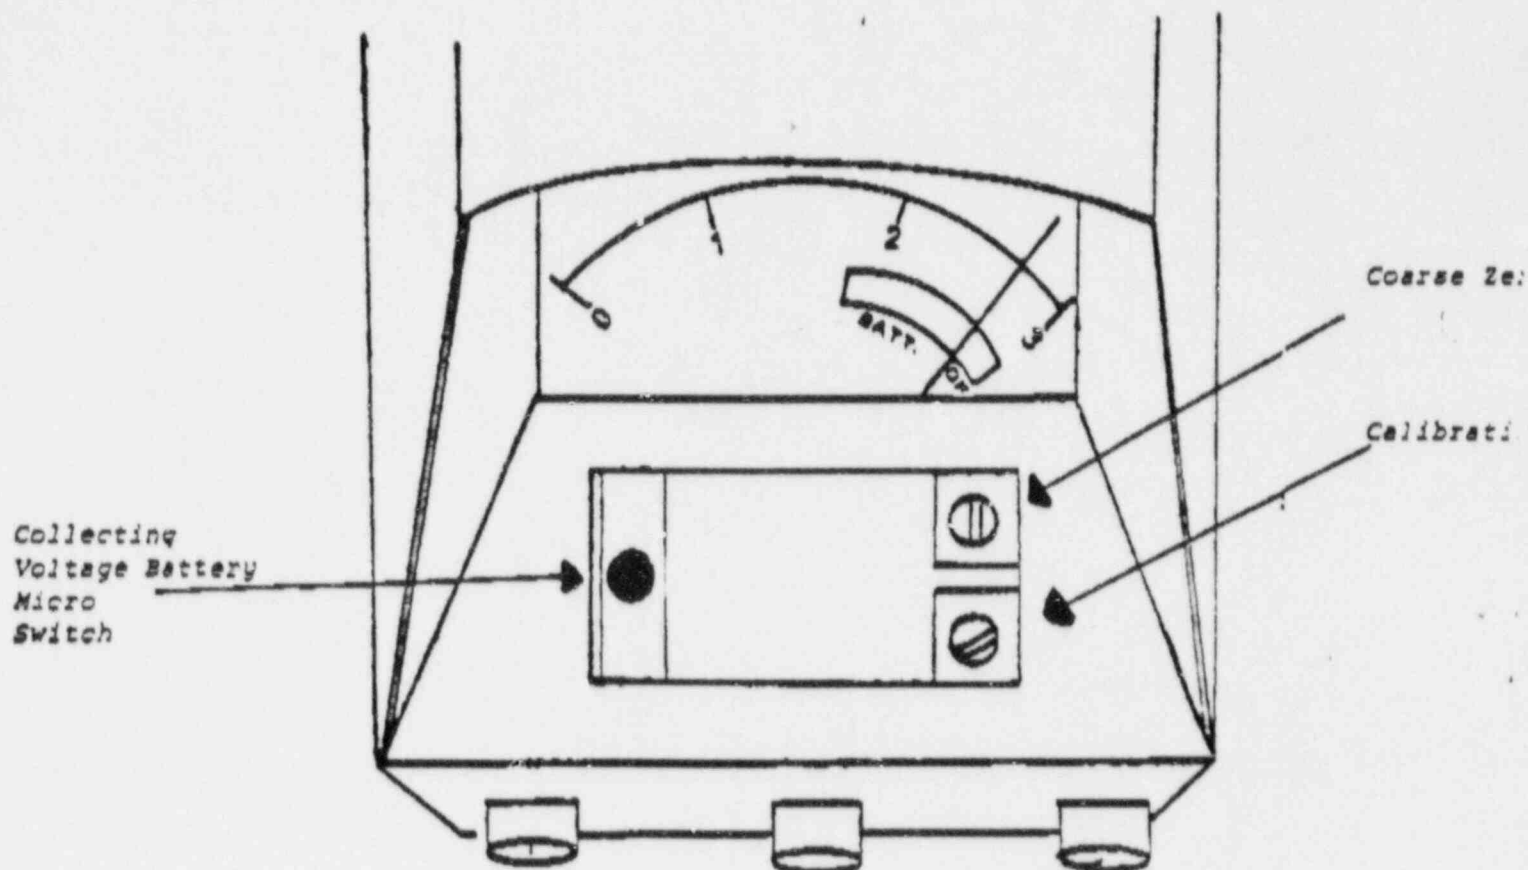

FIGURE 2. View of Instrument with VICTOREEN Logo Plate Removed Showing Battery Test Micro Switch, Calibration Control and Coarse Zero Potentiometer
The BATT position on the Range Switch will check the condition of the D cells only, which must read in the green area of the meter. Since the 22½ volt batteries will last for shelf life, they require only infrequent checking. Checking may be accomplished by snapping out the VICTOREEN logo located below the meter and actuating a micro-switch located on the left hand side of the opening. When the switch is actuated, the meter will read about 95% of full scale. Note the reading for future reference to establish battery condition. The batteries should be replaced when they have dropped about 5% below their initial reading. This check must be performed with the Range Switch in the OFF position. See Figure 2.
3.2.5 Calibration Potentiometer and 22½ V Battery Test Switch - A calibration adjusting potentiometer, a coarse zero potentiometer, and a collecting voltage battery test switch are located under the VICTOREEN logo plate directly under the meter. (See Figure 2). This logo may be snapped out for access to these controls. The calibration potentiometer is factory adjusted and should be re-adjusted only with a calibrated radiation source.